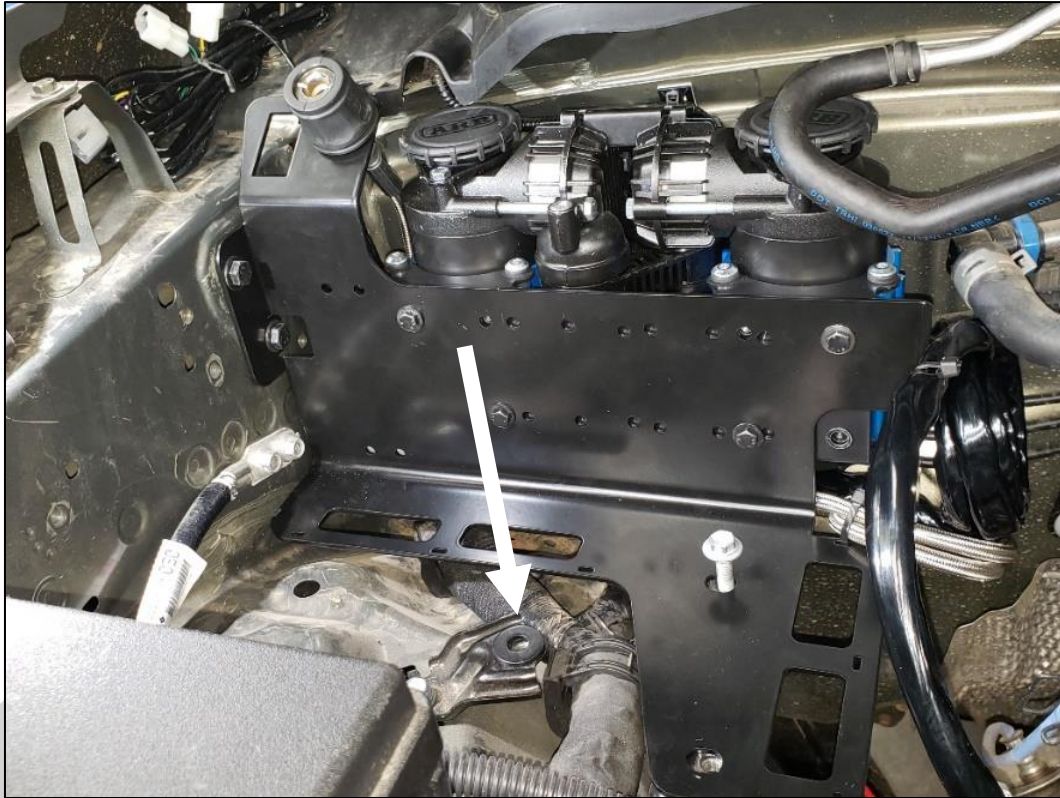

Figure 18. Compressor bracket assembly spacer washer
- ☐ Install the compressor assembly, ensuring to place the M10x3 mm washer in the location shown in Figure 18.